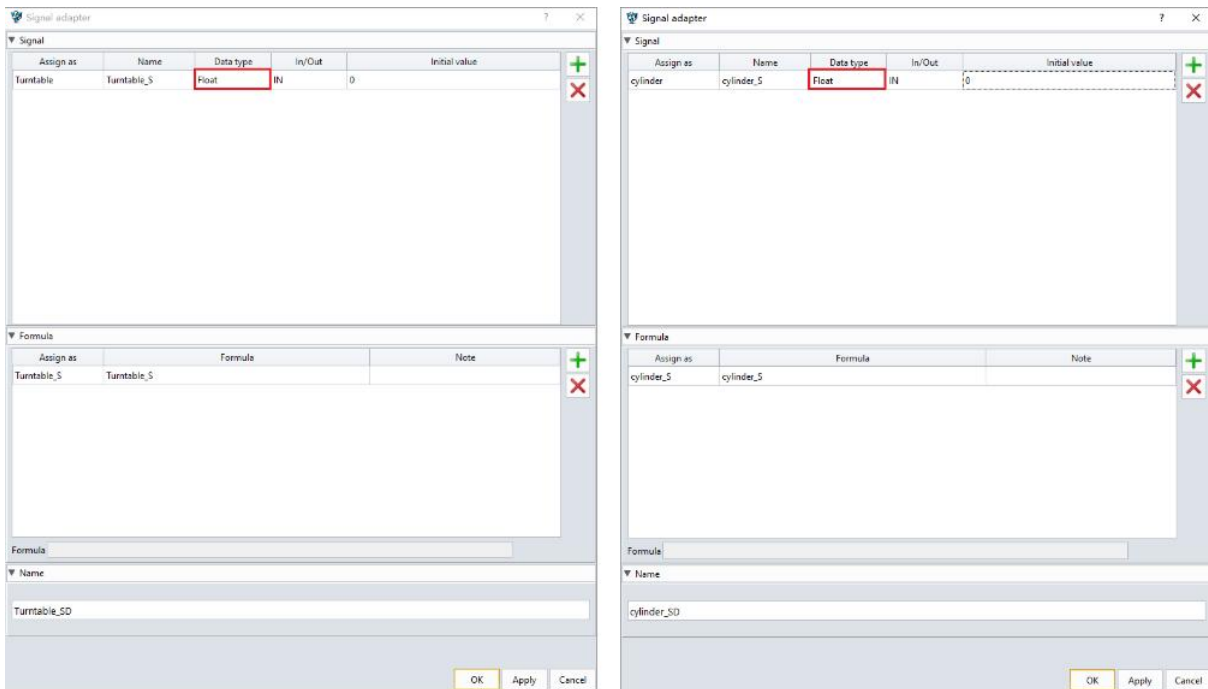

Figure 13-30: Two signal adapter
- Create two signal adapters: "Turntable_SD" and "cylinder_SD".(Figure 13-30)
- Assign the corresponding "Turntable" and "Cylinder" control signals.(Figure 13-30)
- Define data types, input/output direction, initial values, and formulas for each adapter.(Figure 13-30)